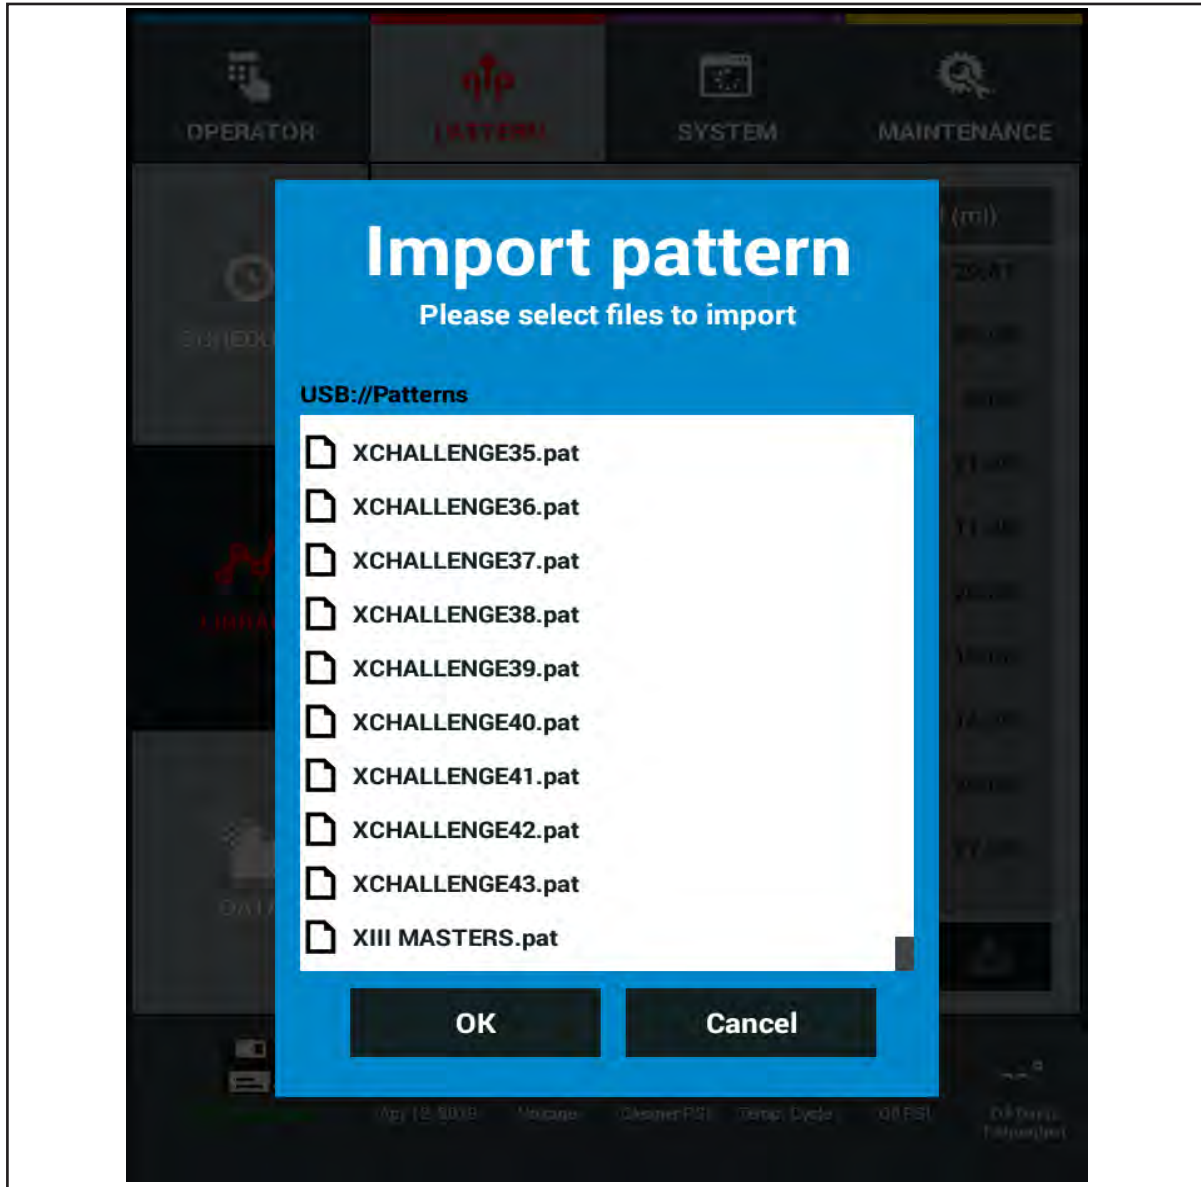

Figure 8-7. Brunswick Brunswick Cloud Public
3. Select Brunswick to access the Public library. Refer to *Figure 8-7*.